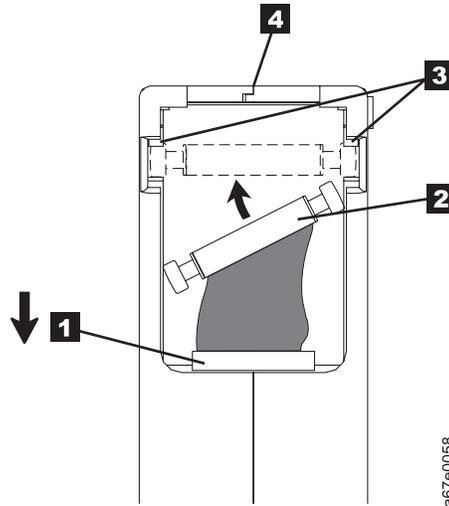

Figure 12. Placing the dislodged leader pin into the correct position. The cartridge door is open to show the leader pin.
1. Slide open the cartridge door and locate the leader pin (**2** in Figure 12 on page 36. You may need to shake the cartridge gently to roll the pin toward the door).
2. With plastic or blunt-end tweezers, grasp the leader pin and position it in the pin-retaining spring clips (**3** in Figure 12).